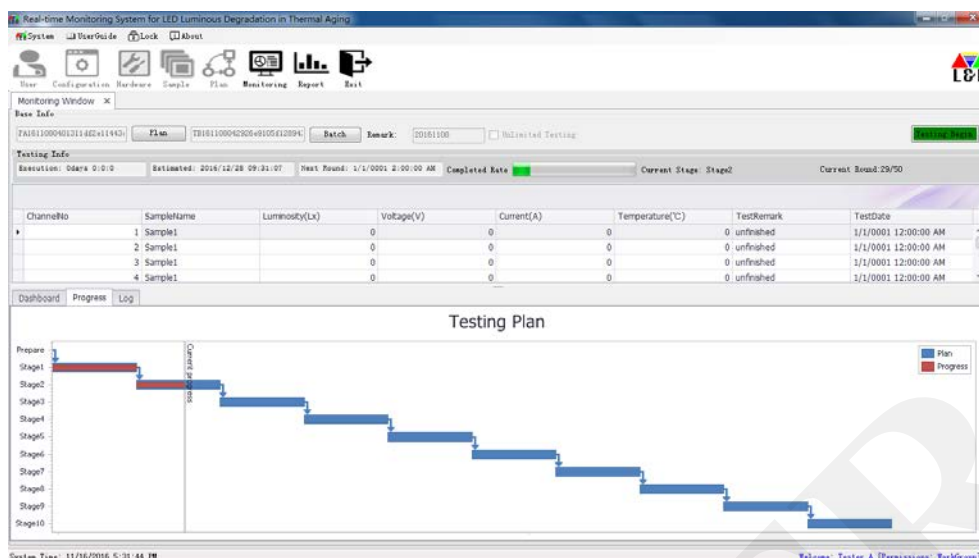

Figure 7.2 Test Progress
- ✧ **[Progress]:** An execution progress chart for the selected test plan is shown as Figure 7.2. The progress chart will update as batch execution progress after selecting a specific test batch.